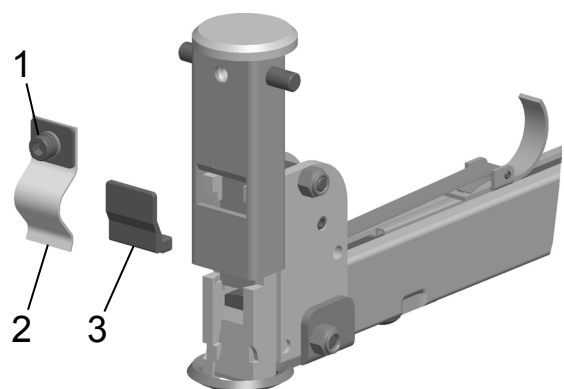

Fig. 11
- Loosen the screw (Fig. 11/1). Squeeze the stapler head and remove the staple trip block(11/3).